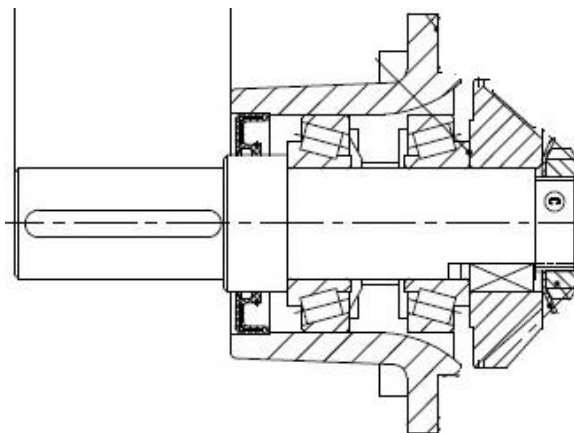

Figure 89
10. Install the nut on the end of the shaft. Figure 89